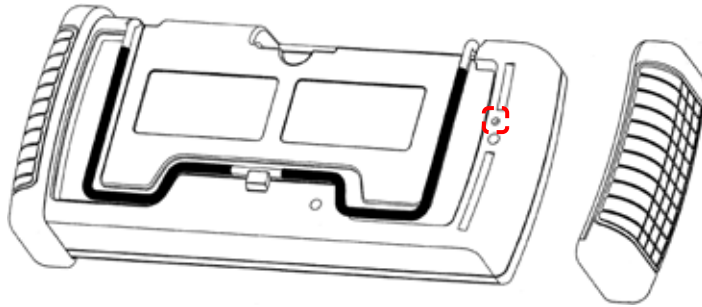

Figure B-2 *Emergency restart button location*
2. Locate the emergency restart button on the back of the unit (Figure B-2).